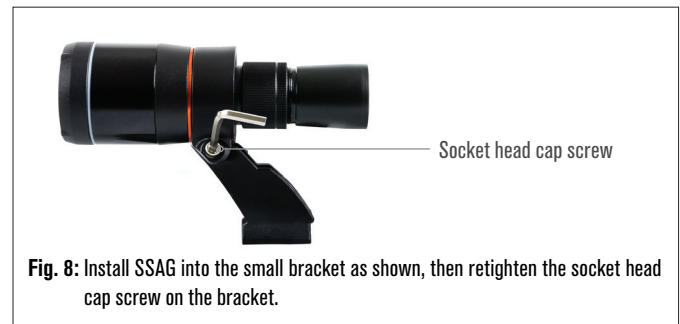

Fig. 8: Install SSAG into the small bracket as shown, then retighten the socket head cap screw on the bracket.
3. Loosen the socket head cap screw on the small bracket's clamp and install SSAG and the orange ring into the small bracket. Orient it as shown (Fig. 8).